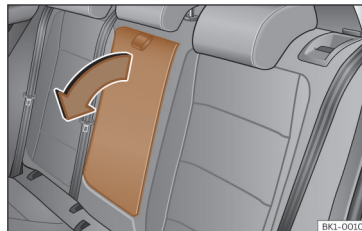

Fig. 102 Folding rear centre armrest (schematic view).
- To *lower* the armrest, pull the cord in the direction of the arrow >>> **Fig. 102**.